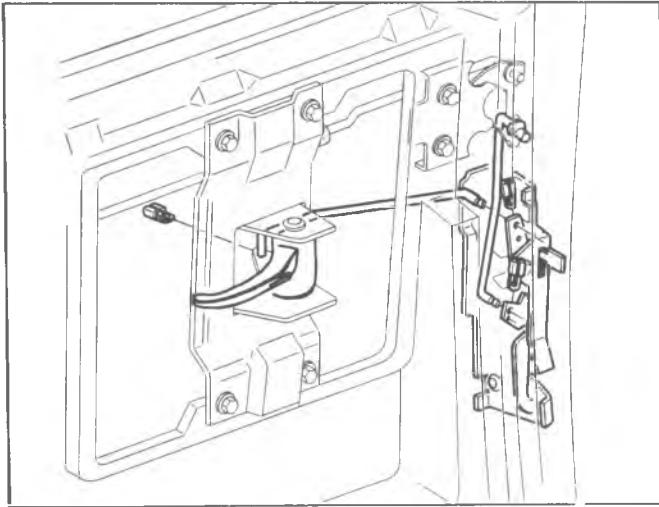

Fig. 41—Lock Assembly and Inside Handle
Lock Assembly—Fig. 41
Inside Handle—Fig. 41
2. Disconnect control rod from inside handle by removing clip as shown in figure 41.